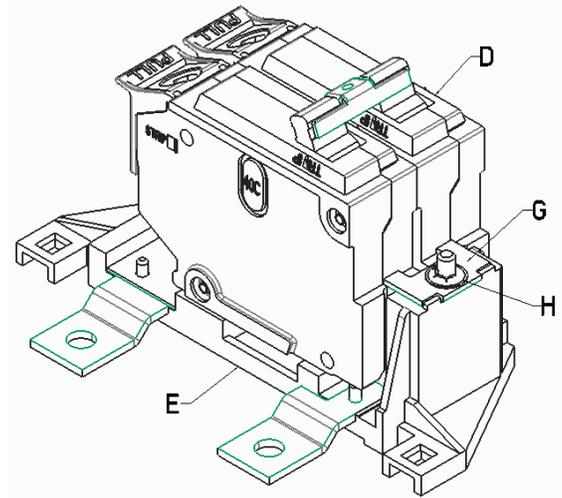

Figure 3: Secure the breaker to the conversion kit base.
3. Secure the breaker to the base (E), using the retainer plate (G) and push nut (H), as illustrated in Figure 3. The push nut can be firmly pressed into place using a tool with a tubular end, such as a $\frac{5}{16}$ " socket or nut driver.